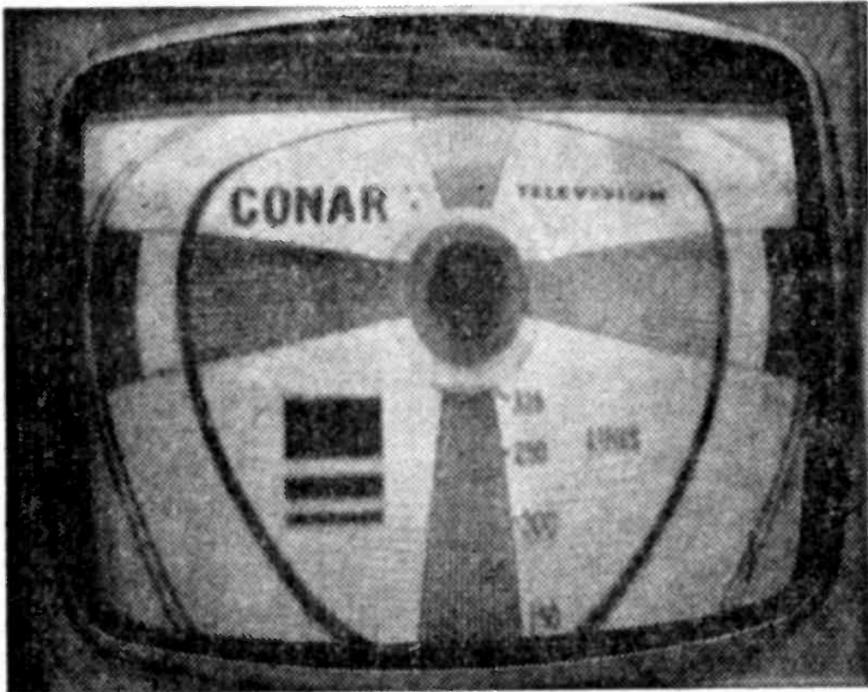

Fig. 24. Flat-topped circle can be made round again by adjusting both the vertical linearity and the vertical height controls together.
**Vertical Linearity Control.** Fig. 24 shows a picture in which the vertical linearity control is misadjusted. In this case the picture is cramped from top to center while the bottom half is elongated. To adjust the vertical linearity control, rotate the shaft until the picture dimensions from top to center and from bottom to center are the same. To do this it is usually necessary to adjust the vertical linearity and vertical size controls alternately until the picture is linear and fits the screen.
Fig. 24. Last but not least in the stable of portable TV troubles is the printed circuit board. Check it for cracks and cold solder joints in the area of the defective circuit, especially around heavy components.
You will find that all tubes and parts are quite close together in portables. Some of the tubes and parts are hard to get at, so proceed with caution (see Fig. 23). If the set has been subjected to abuse, don't forget to check the PC board for possible intermittent condition (see Fig. 24). Especially on the earlier sets, PC boards were subject to many problems.